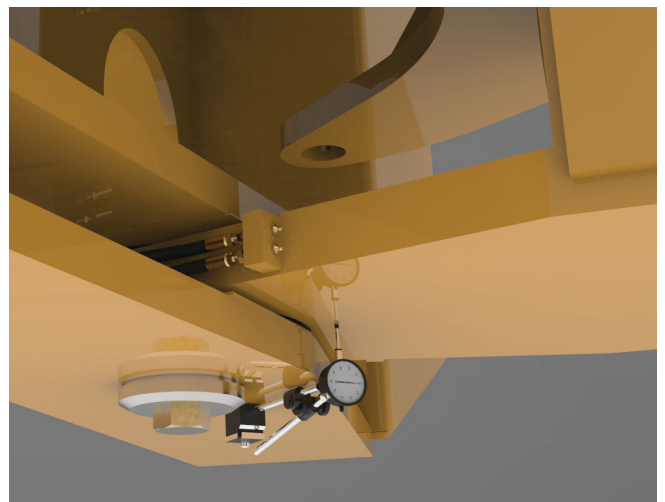

Figure 2 Vertical Wear Check
7. Record the values for the vertical movement for both the upper and lower hinge bars in the same manner. See Figure 2. The dial indicator plunger should set as close to the joint as possible.